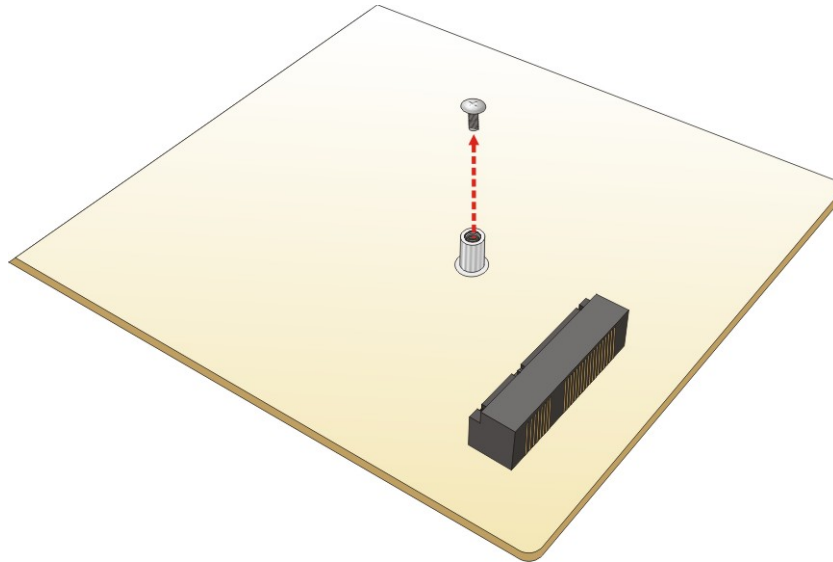

Figure 4-5: Removing Retention Screw
Step 2: Remove the retention screw. See Figure 4-5.